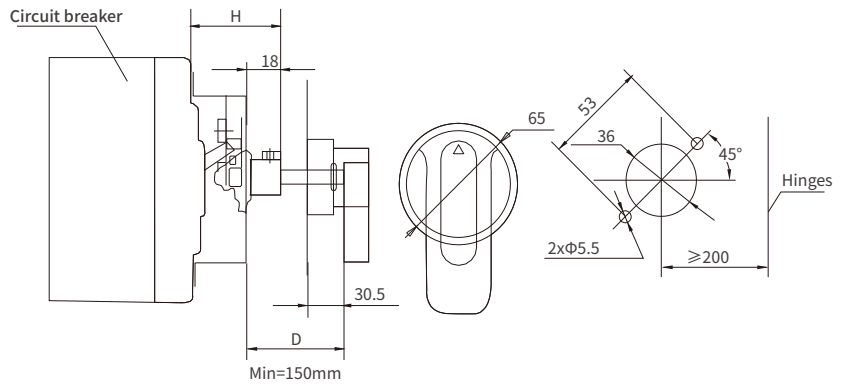

Figure 7. Mounting dimensions of the manual operator
9、 See Figure 7 and Table 5 for the manual operator